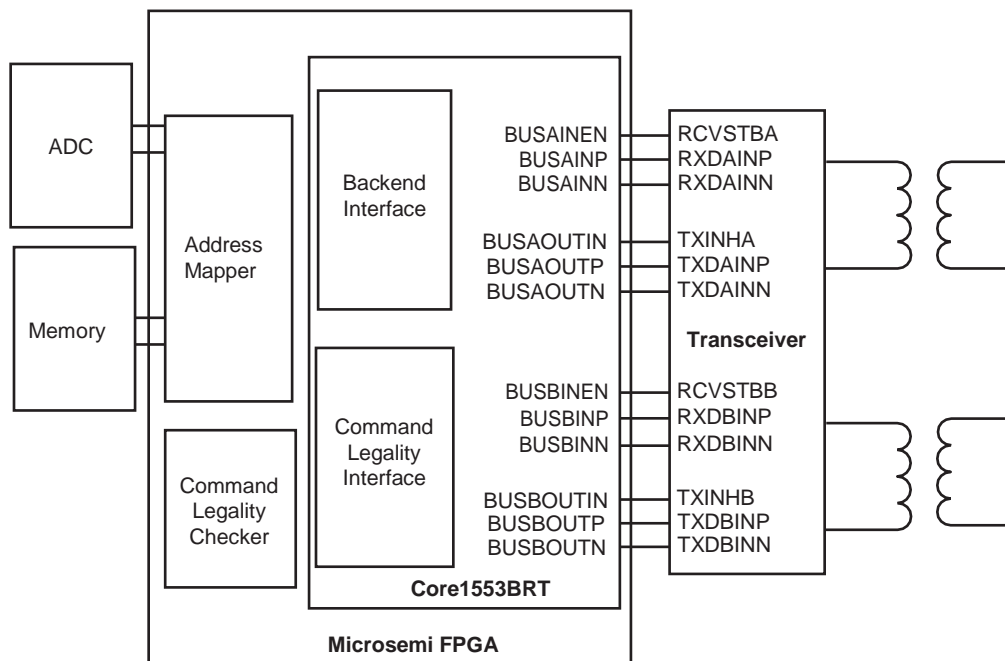
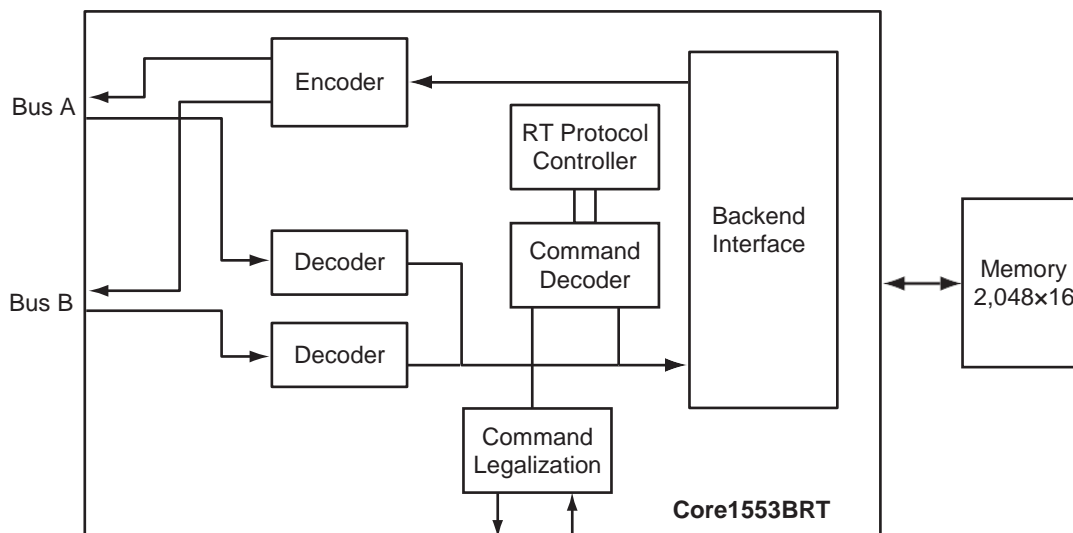

Figure a-1 • Typical Core1553BRT System
Figure a-2 • Core1553BRT RT Block Diagram
Core1553BRT provides a complete, dual-redundant MIL-STD-1553B remote terminal (RT), apart from the transceivers required to interface to the bus. A typical system implementation using Core1553BRT is shown in Figure a-1 and Figure a-2 on page 6.
The core consists of six main blocks: 1553B encoders, 1553B decoders, the backend interface, a command decoder, RT controller blocks, and a command legalization block (Figure a-2).